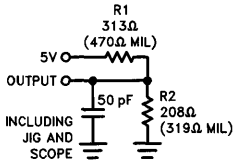
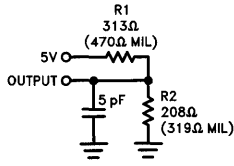

Figure 4a
Figure 4b
- Figure 4a test load used for all parameters except t_{CEA}, t_{CER}, t_{PXZ} and t_{PXZ}. Figure 4b test load for t_{CEA}, t_{CER}, t_{PXZ}, t_{PXZ}.